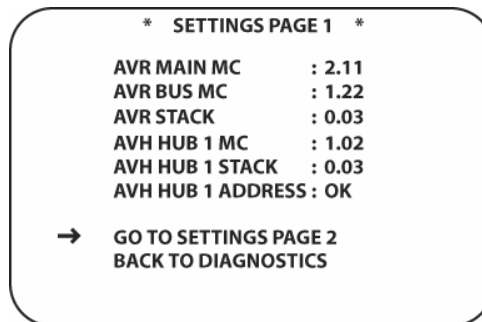
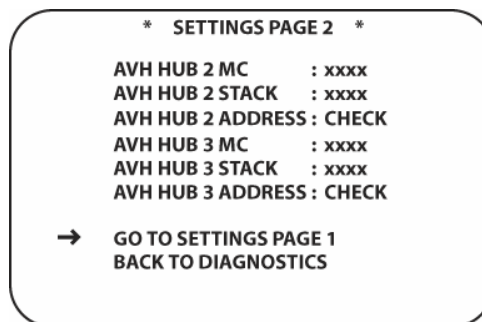

Figure 120 System Settings Page 1
Figure 121 System Settings Page 2
If a system only has one AVH21 A/V Hub, the Settings screens should appear as shown in **Figures 120 & 121**. The values associated with AVH Hubs 2 & 3 will appear as shown in **Figure 121**, indicating no connection. If a second or third AVH21 is connected and the SETTINGS PAGE 2 screen does not populate with values indicating confirmation of connections and communication, check connections between AVH21 Hubs and AVH power connections to find the problem. If problem persists, see Section: **Multiroom Troubleshooting Guide**.
4. With the cursor next to SETTINGS, press the **Set Button**. The SETTINGS PAGE 1 screen will appear. (**Figure 120**)
5. To view Page 2, with the cursor positioned next to GO TO SETTINGS PAGE 2, press the **Set Button [oval 18]**. SETTINGS PAGE 2 will appear. (**Figure 121**)